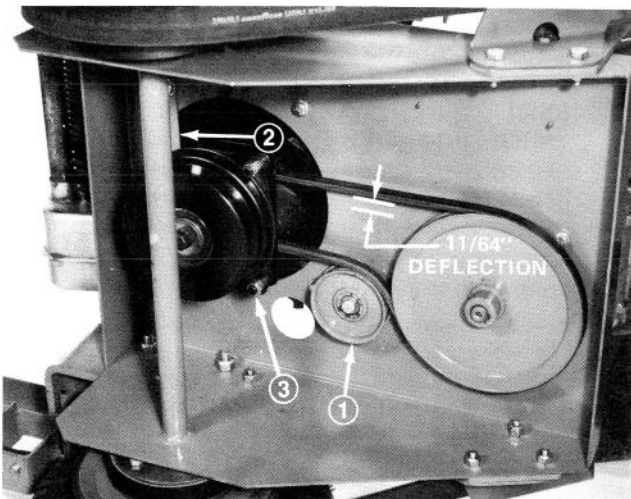

Figure 20
1. Loosen capscrew and flange nut securing idler pulley to frame (Fig. 20). Slide pulley outward relieving belt tension.
2. Remove left front engine mounting bolt securing clutch retainer to frame (Fig. 20). Unhook retainer from clutch and remove retainer.
3. Disconnect in-line wire connector and remove belt from drive pulley and clutch (Fig. 20).
6. Position and secure idler pulley to frame so belt deflection is no more than 11/64" when 5-1/2 lb force is applied to midspan of long leg of belt (Fig. 20).
1. To adjust clutch, tighten or loosen locknuts on flange studs (Fig. 20).